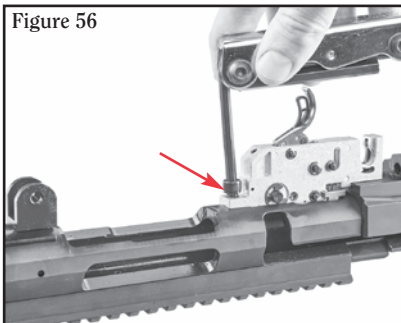

Figure 56
1. Using a 3/16" Allen wrench remove the bolt at the front of the trigger assembly. (See Figure 56.)
- c. Using a 3/16” Allen wrench, tighten the front trigger assembly screw. (See Figure 56, p. 39.)